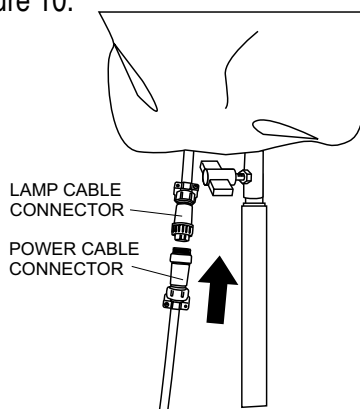

Figure 10. Connecting the Power Cable
9. Connect the power cable to the lamp cable connector. See Figure 10.